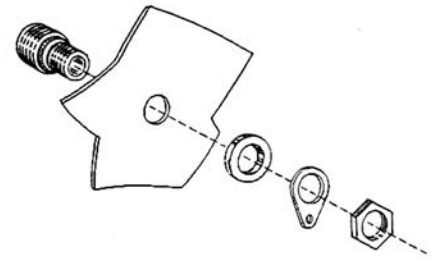

Figure 12
- () 191. At location CC, mount a coaxial connector. Remove the large solder lug for it will not be used. A large thick washer is installed between the panel and nut. See Figure 12.